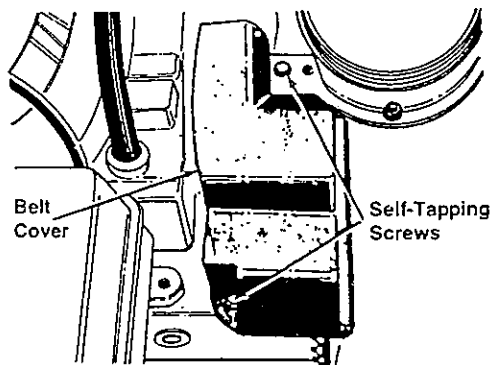

FIGURE 24-Chute removed for clarity.
- Remove the plastic belt cover on the front of the engine by removing two self-tapping screws. See figure 24.